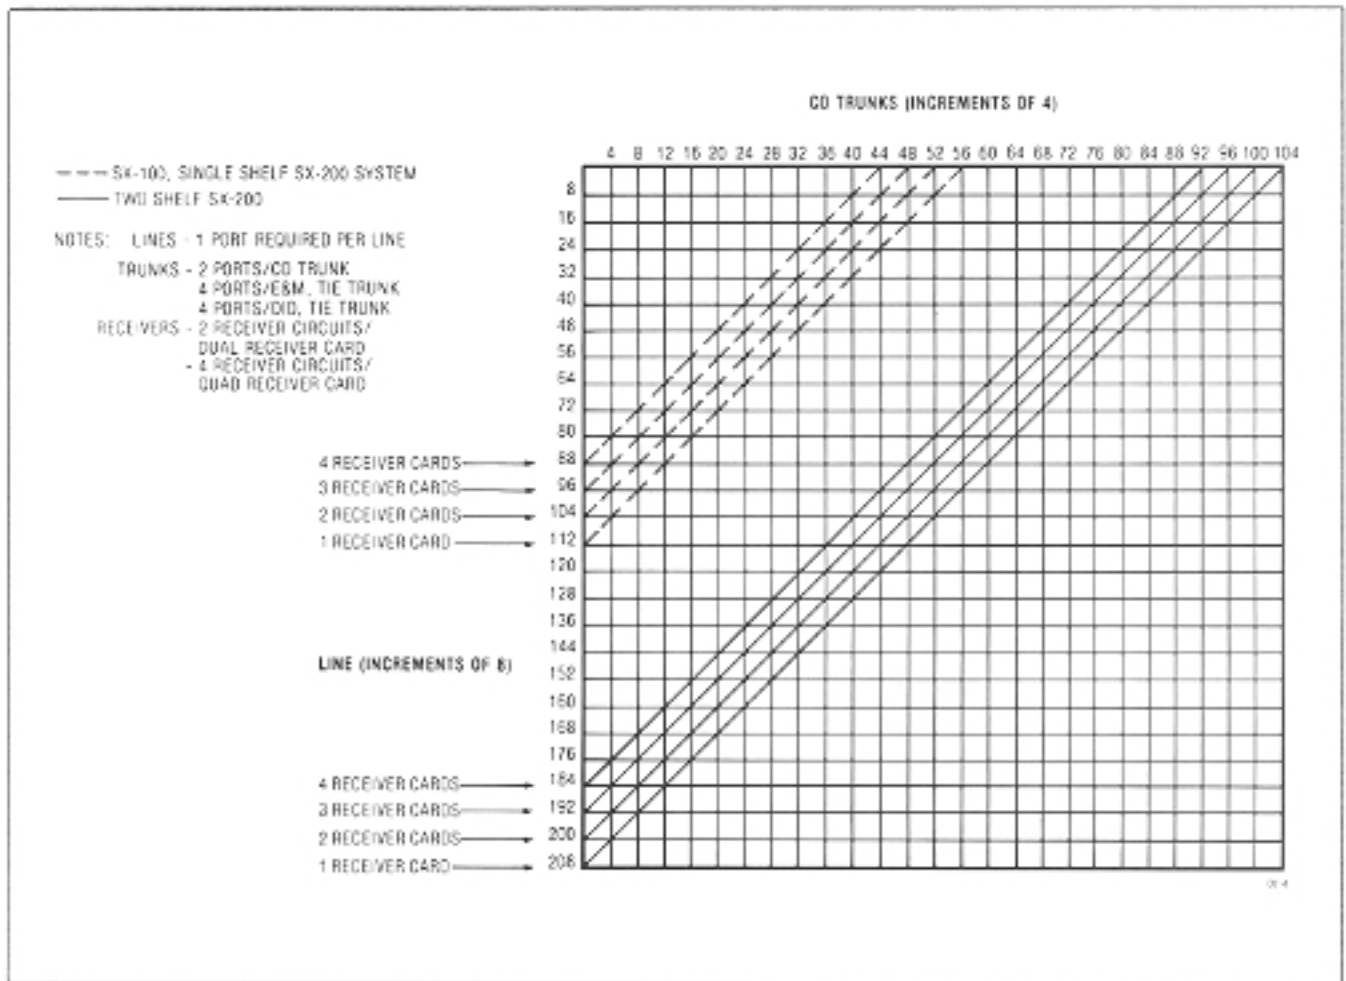

Fig. 2-1 Maximum Line And Trunk Configuration
2.01 The SX-200 is an advanced Electronic Private Automatic Branch Exchange (PABX) employing digitally controlled solid-state space-division switching and stored program control. The SX-200 has a capacity of 256 ports. Two hundred and eight of the ports are available for assignments to lines, trunks and additional receivers. The remaining 48 ports are reserved for common control functions. Figure 2-1 shows the maximum line and trunk configuration. The SX-200 is electrically compatible with most existing extension, key-telephone, Private Branch Exchange (PBX) and Central Office (CO) equipment and provides: